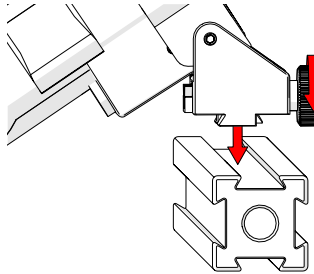

Fig. 255 - Mount on frame bar
1. Loosen the battery powered optical guide knob (Fig. 255) and mount the optical guide to the frame bar.